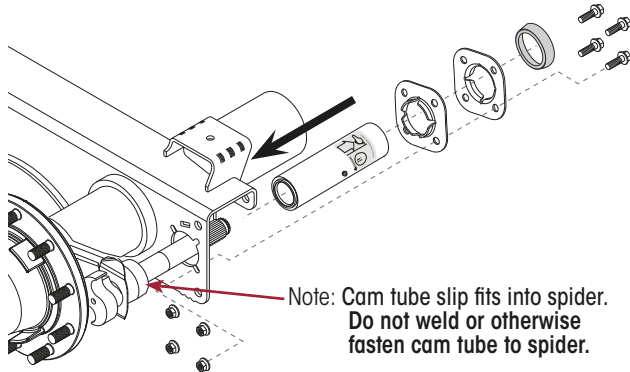

Figure 72: INTRAAX Cam Tube Installation
3. From the inboard side of the suspension beam, slide the new cam tube assembly onto the new S-cam, through the mounting hole in the suspension beam and into the spider as shown in Figure 72.